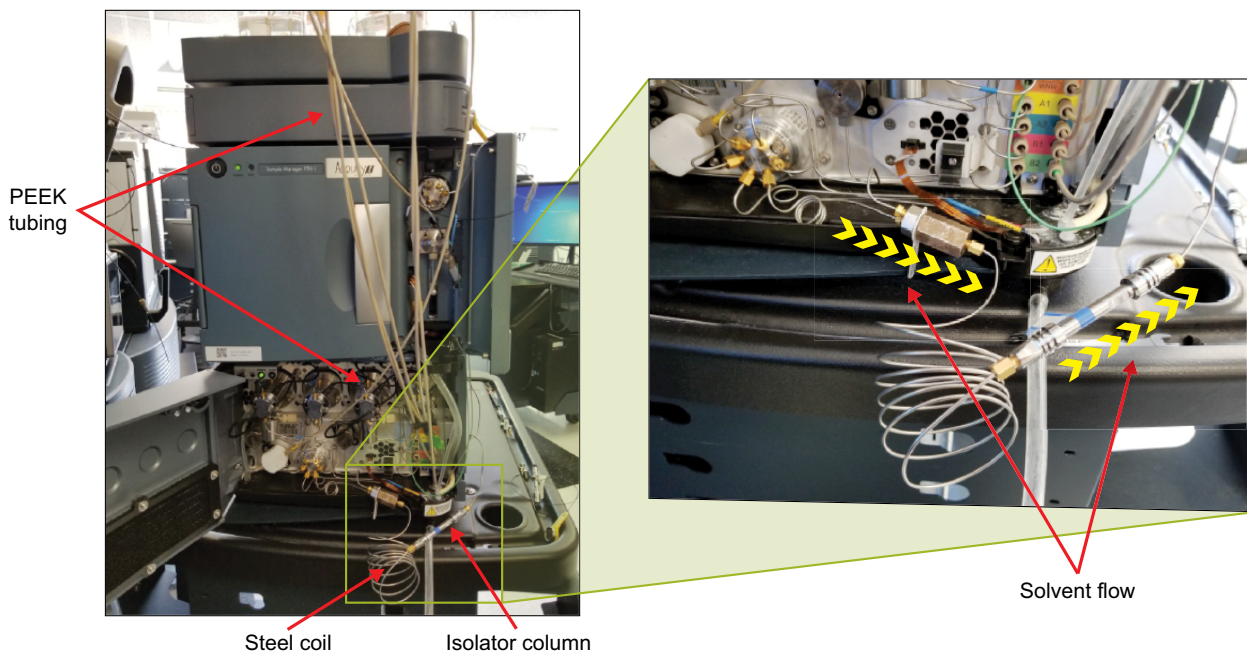

Figure 2. Front view of an ACQUITY™ UPLC™ I-Class System (BSM) showing components of installed PFAS Kit.
1. PEEK™ Solvent Tubing: The typical tubing that comes on an LC is Teflon coated. Any mobile phase and wash lines that will be used during sample analysis must be replaced with the PEEK Tubing from the PFAS Kit. Installation of this tubing consists of unscrewing the Teflon tubing from the connection port on the LC pump and connecting the PEEK Tubing in its place (**Figure 2**). The following solvent lines need to be replaced: